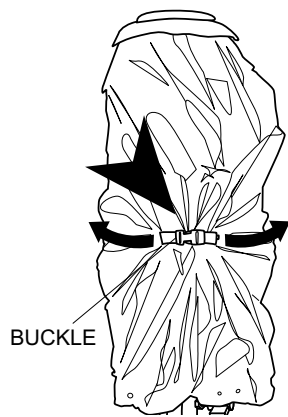

Figure 12. Releasing Buckle
11. Release the buckle on the belt holding the balloon together. See Figure 12.